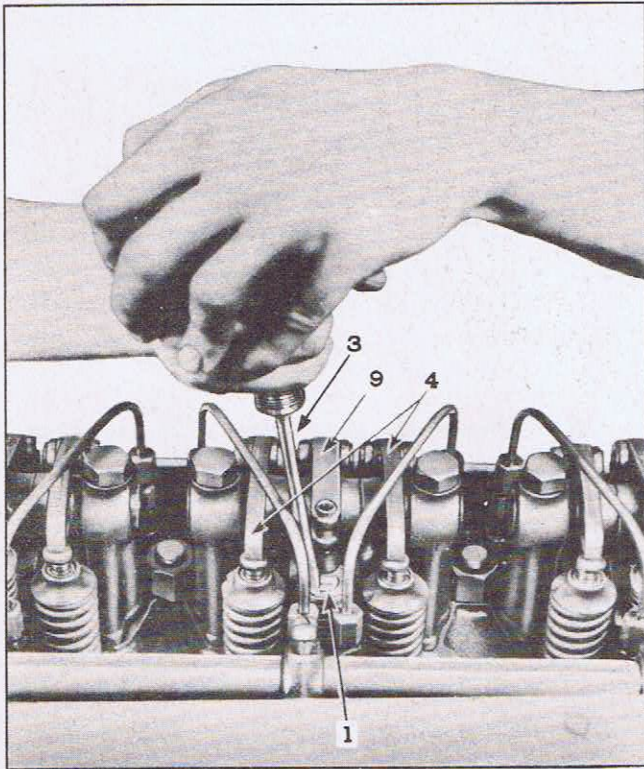

FIG. 6—DEPRESSING INJECTOR FOLLOWER WITH SCREWDRIVER.
4. Hold injector plunger of No. 1 cylinder down with a screwdriver as shown in Fig. 6, thus putting the injector out of operation. At the same time, note the tachometer for any difference in engine speed. If the cylinder is misfiring or the injector is not functioning properly, there will be no change in speed when the injector is put out of action. If the